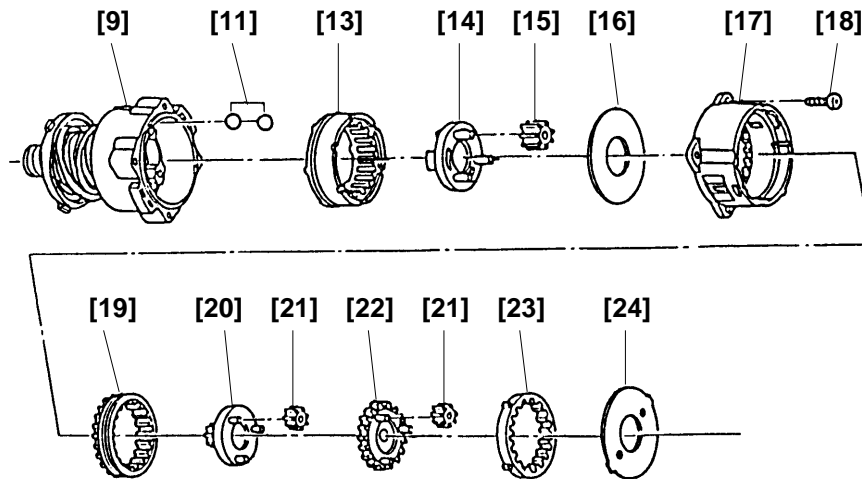

Fig. 12
(4) Reassembly of the gearing
- (b) Install the parts series from Steel Ball [11] to Washer (B) [24] to the assembly from step (3). (See Fig. 12)